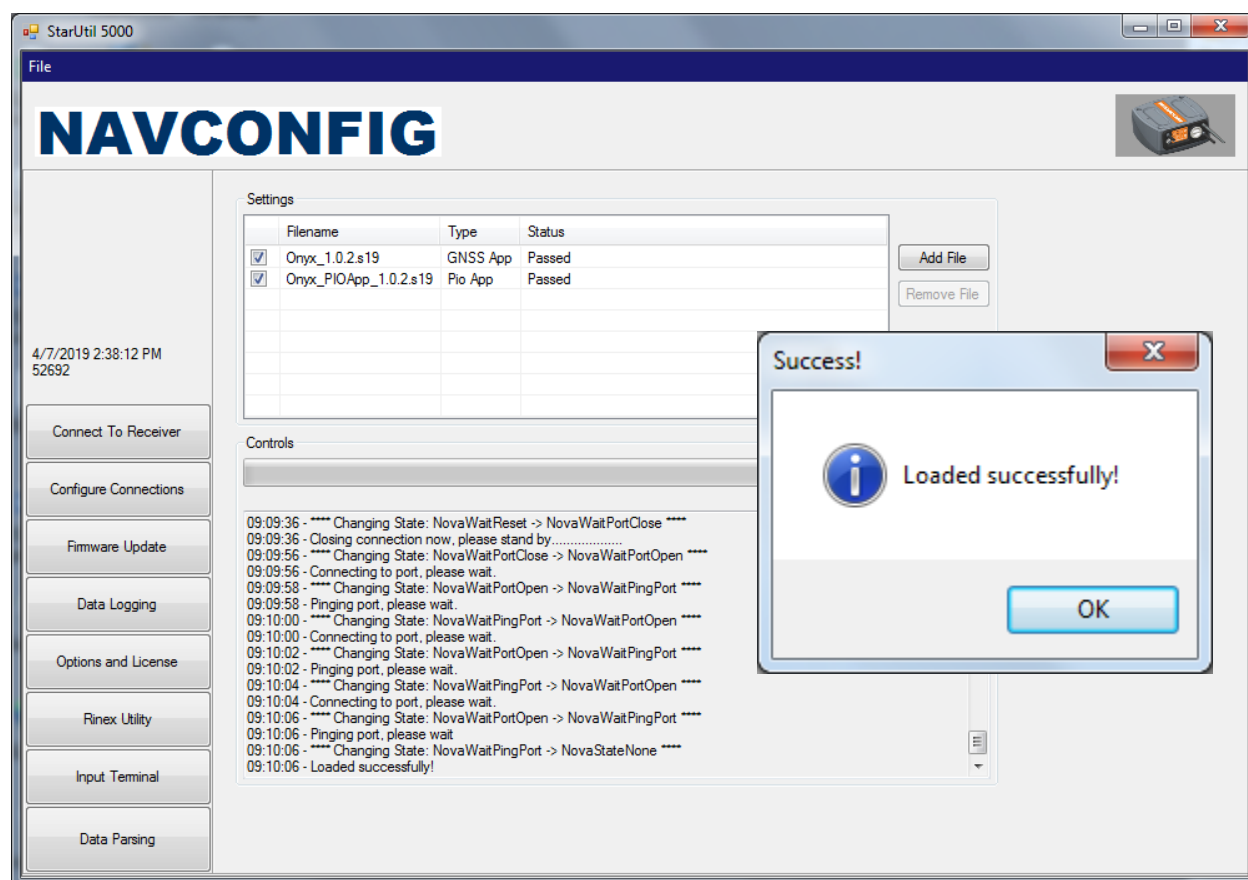

Figure 23: Finished with All Downline Loads
7. Once the firmware files are uploaded, the *Loaded Successfully* dialog box is displayed (see Figure 23).